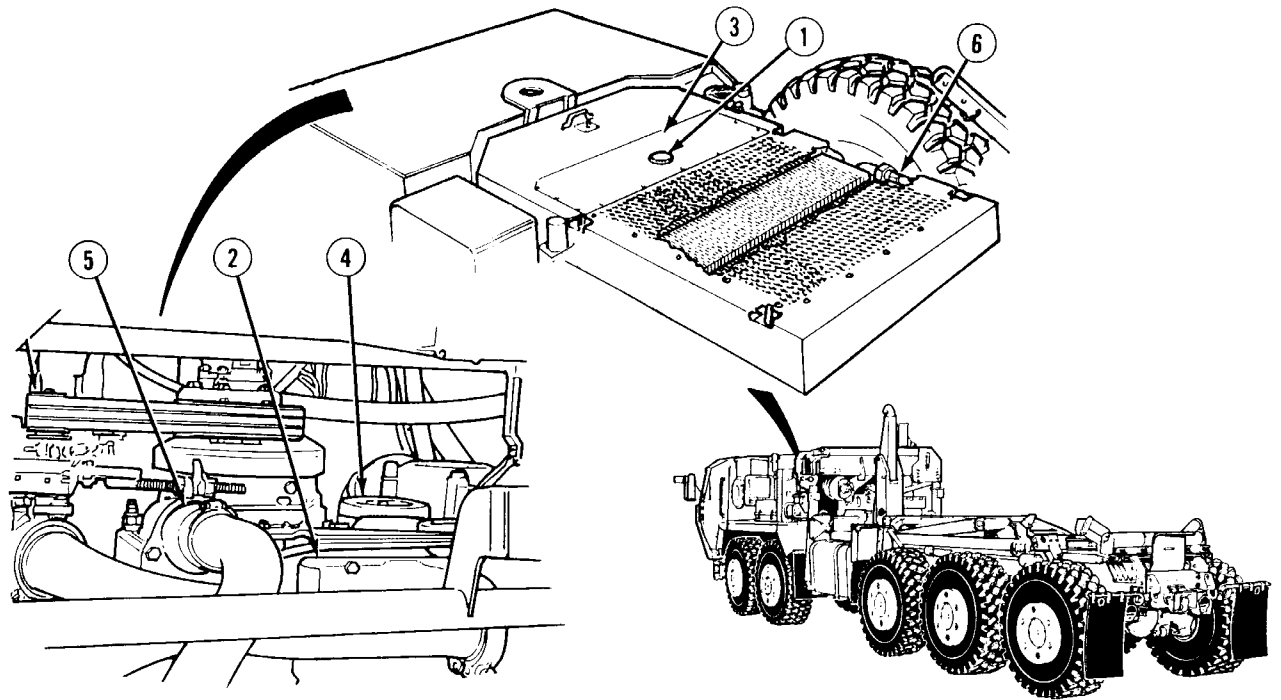

Figure 1-6. Cooling System
a. *Cooling System.* The pressure-type cooling system (Figure 1-6) protects the engine by removing heat generated during the combustion process. Pressure within the cooling system is regulated by a pressure release in the radiator filler cap (1). The hot coolant flows from the engine (2) to the radiator tank (3) and through the radiator core where a stream of air removes heat. This stream of air is drawn through the core by the fan. A water pump (4) draws the coolant from the radiator and pushes it through the engine repeating the cooling process. Thermostats (5) mounted in each coolant outlet elbow, remain closed until the coolant approaches a predetermined temperature at which time they open. When the coolant temperature drops below the thermostat rating, they close. An air vent line between the radiator and the water pump inlet removes air trapped in the engine when the cooling system is being filled. An oil cooler (6) is mounted in the radiator lower tank.